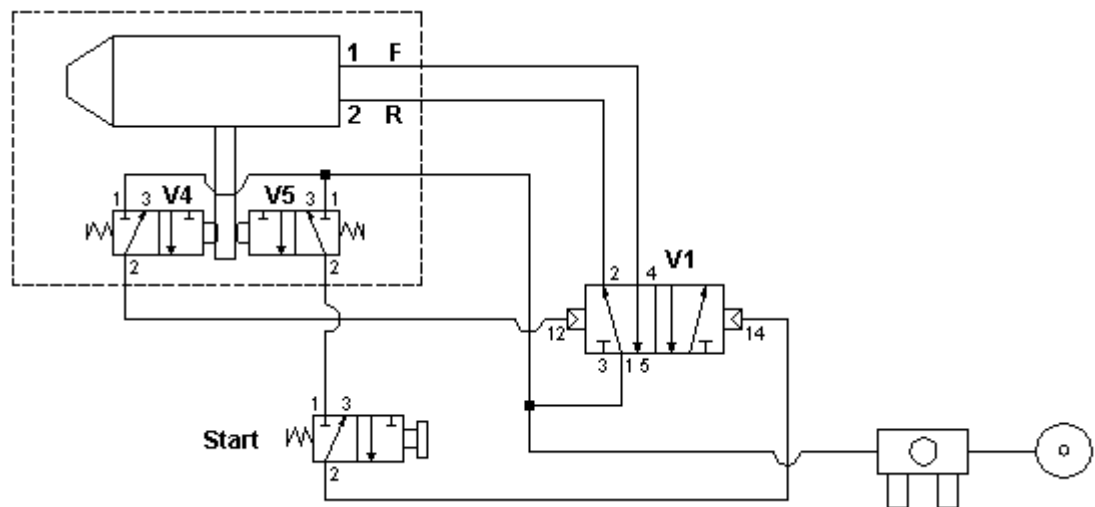

Fig. 5.
7. Units delivered with pneumatic limit switches (chosen when ordering) allow automatic drilling operation, pneumatically controlled in accordance with Fig. 5 where the valve (marked Start) is actuated manually. Should repeated automatic drilling be desired, this valve must be replaced by a pneumatically controlled valve which receives its activation signal from the control system of the processing machine in which the unit is installed. Valves V4 and V5 are pneumatic limit switches, which are delivered mounted on the unit. Valve V1 shall be of 4-way, 2 position type and the the dimension of valve V1 shall be 1/8" when the valve is used for a single unit.
9. Connection of pneumatic limit switches for sensing the position of the feed spindle. The unit is delivered with plastic hose (length 2 meters (6.56 Ft)) with an outside diameter of $\varnothing 4$ mm (3/16") for connecting the pneumatic limit switches. Connection, see Fig. 5 and 7.